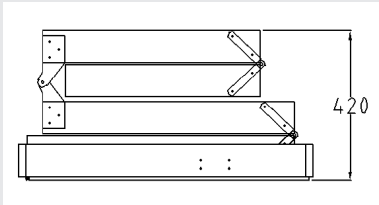

fig 9
2. Lift the stairs through the opening into the attic space. Then lower them down squarely into the opening so the frame of the stair rests on the temporary cleats (figure 9). This is normally best done from below and can be done by one person, but it is very much easier and safer with two people.